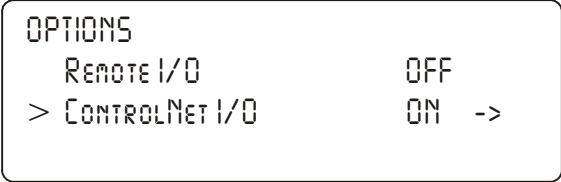

FIG. 55: OPTIONS/SELECTING CONTROLNET I/O
- Step 3. Press the Enter button. The Options submenu appears. (See Fig. 55)